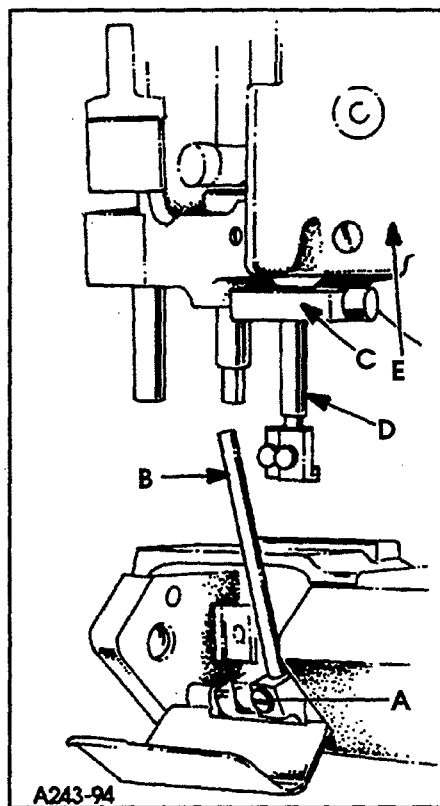
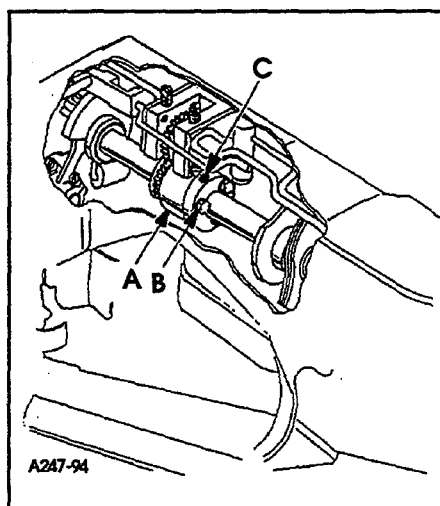

FIG. 2
FIG. 3
To synchronize the machine, remove the needles, presser foot, throat plate, feed dogs and upper feed roller mechanism. Rotate handwheel in the operating direction until the needle bar is at the bottom of its stroke and just begins its upward travel. Loosen screw (A, Fig. 2) and remove the
Both ends of the adjustable split coupling are secured to the crankshaft and main shaft by spot screws and set screws. On the main shaft end of the coupling (A, Fig. 3) three screws (B) thread horizontally through the coupling. The holes in the main shaft end of the coupling are larger than the diameter of the screws, permitting several degrees of rotation in either direction to properly synchronize the needle and looper. Loosen the three horizontal clamp screws (B, Fig. 3). With rod (B, Fig. 2) at its farthest position to the left, snug the uppermost horizontal clamp screw enough to hold coupling (A, Fig. 3) in position. If the handwheel is turned in reverse of operating direction and gauge (C, Fig. 2) on needle bar (D) contacts the machine casting (E) before rod (B) contacts the edge of the throat plate, loosen horizontal clamp screw (B, Fig. 3) which was snug, while holding the coupling in place with an Allen wrench in set screw (C). Rotate the handwheel slightly in reverse of operating direction, snug the uppermost horizontal clamp screw (B), recheck synchronization. If the handwheel is turned in reverse of operating direction and the rod contacts the edge of the throat plate before the clamp gauge contacts the machine casting, adjust as before, except turn the handwheel slightly in the operating direction. Use shim stock to insure no more than .005" (0.1mm) exists between gauge and casting or between rod and throat plate, in both the operating and reverse directions of the handwheel. When this setting has been made, tighten the three horizontal clamp screws (B, Fig. 3) securely, and recheck both clearance points with .005" (0.1mm) shim gauge to assure no slippage occurred while tightening the screws.